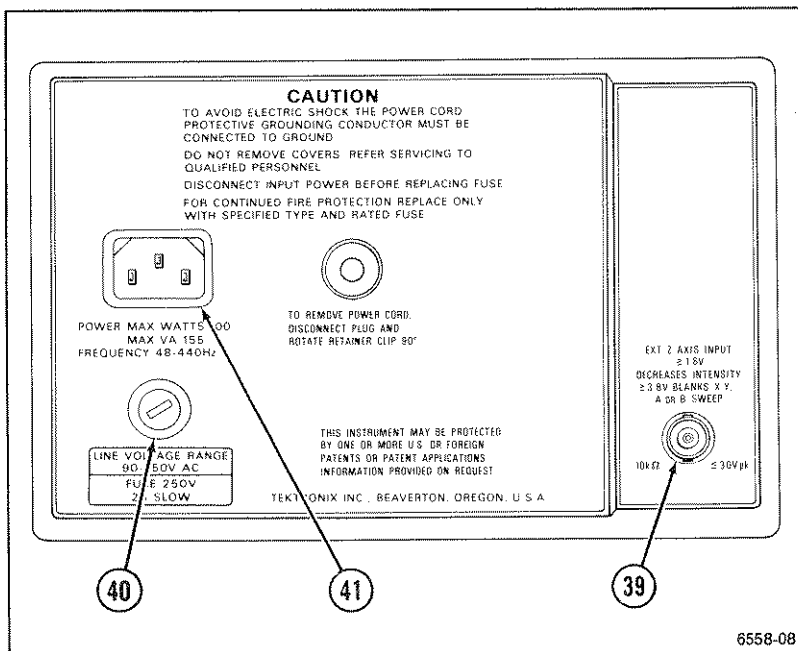

Figure 2-6. Rear panel connectors and fuse.
Refer to Figure 2-6 for location of items 39 through 41.